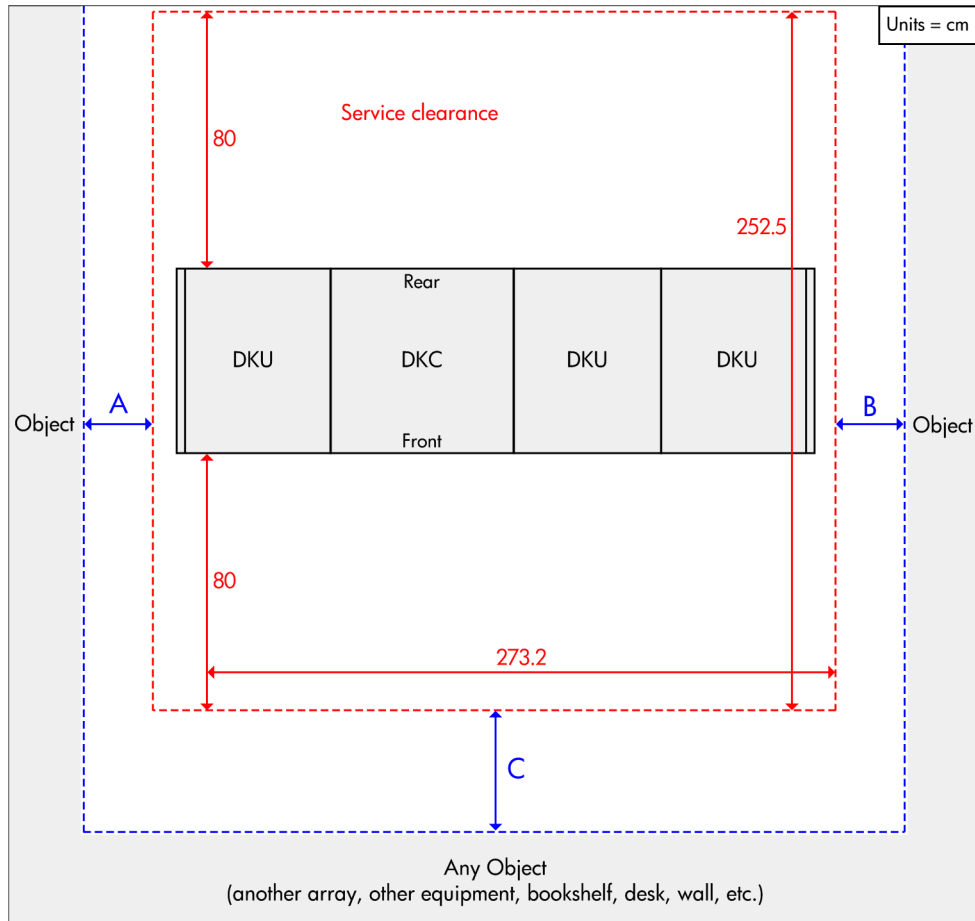

Figure 7. Floor clearance — DKC and three DKUs
- DKC with three DKUs—Figure 7 (page 42)